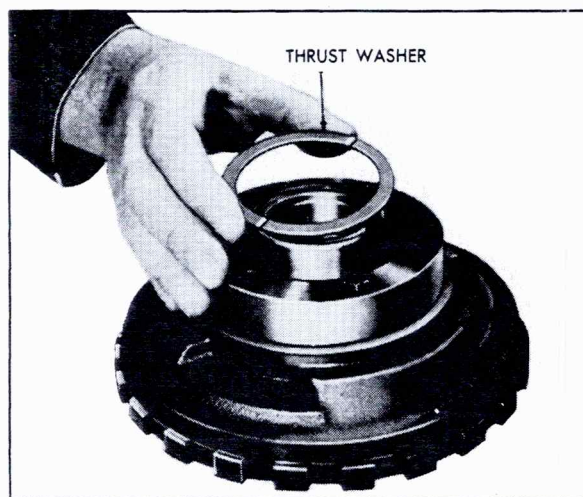

Fig. 7-191 Installing Center Support to Reaction Carrier Thrust Washer
h. Lubricate phenolic center support to reaction carrier thrust washer with petrolatum and install washer in recess of center support, Fig. 7-191. Check to make sure sun gear thrust bearing race is on center support.